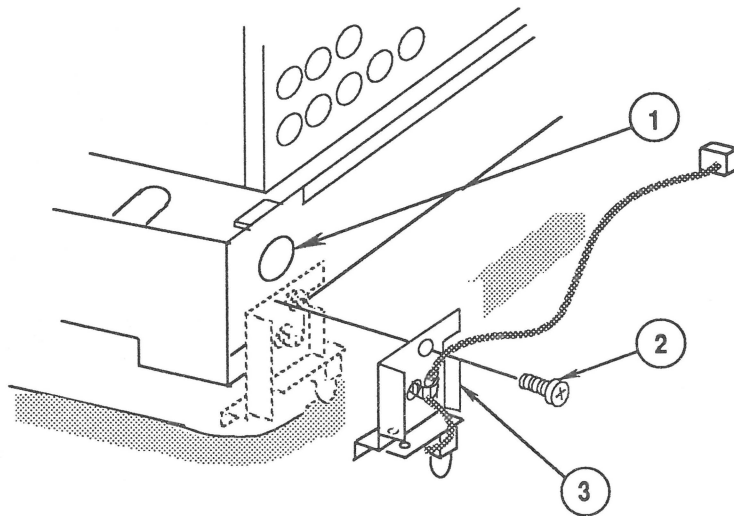

FIGURE 47
8. Pull the small LED cable connector out of the chassis access hole (Figure 47, #1).
9. Remove the screw (Figure 47, #2) that secures the LED mounting bracket (Figure 47, #3) to the chassis.